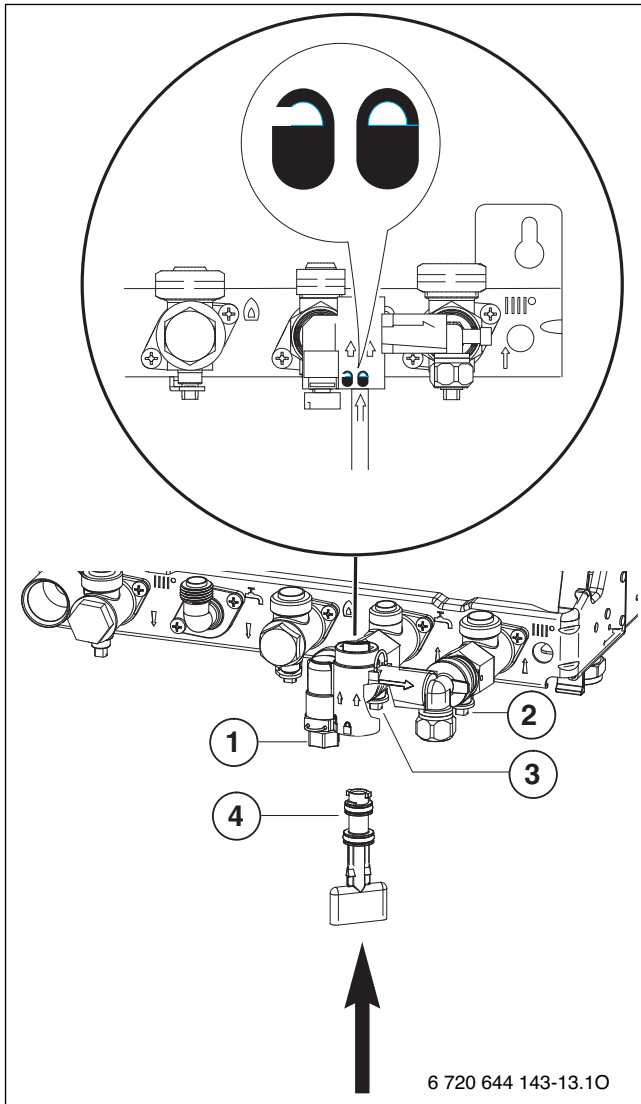

Fig. 23
- ▶ Tighten screw [1] on the filling loop as far as it will go (→ Fig. 23).